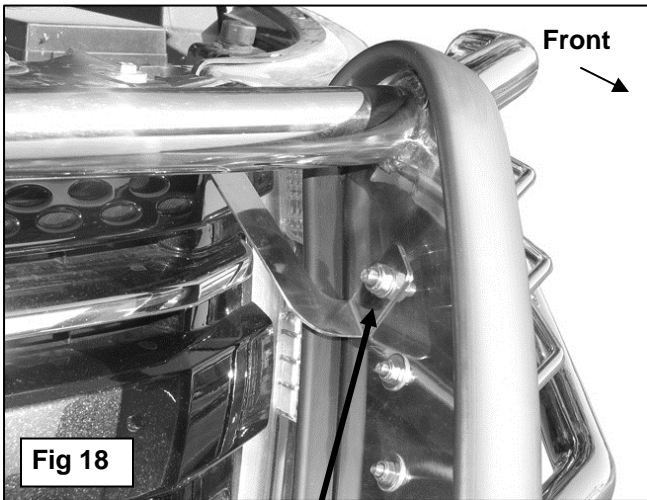

Fig 18
14. Insert the driver side Top Bracket through the opening cut into the top cover and line up the mounting slot. Bolt the Top Bracket to the cover with the included (1) 6mm x 35mm Hex Bolt, (1) 6mm Flat Washer and (1) 6mm Lock Washer, **(Figure 17)**. Line up the remaining, (forward), end of the Top Bracket with the hole in the upright on the Grille Guard. Bolt the Bracket to the inside of the upright with (1) 10mm x 25mm Button Head Bolt, (2) 10mm x 20mm Flat Washers and (1) 10mm Nylon Lock Nut, **(Figure 18)**. Repeat this Step for passenger side Top Bracket installation.